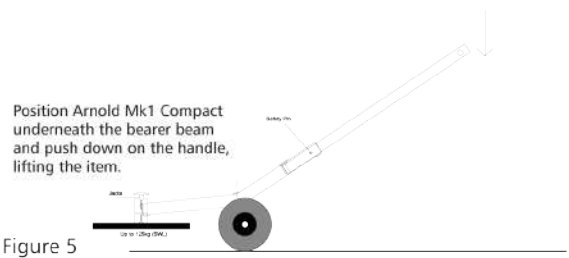

Figure 5
5. The lid is now ready to be removed. To operate, the arms of the lifting device should be forced down and the lid gently lifted out (Figure 5). If this operation is met with resistance, you can wind the bearer Beam jacks down, this will help release the lid (You may have to tap the lid with a mallet).